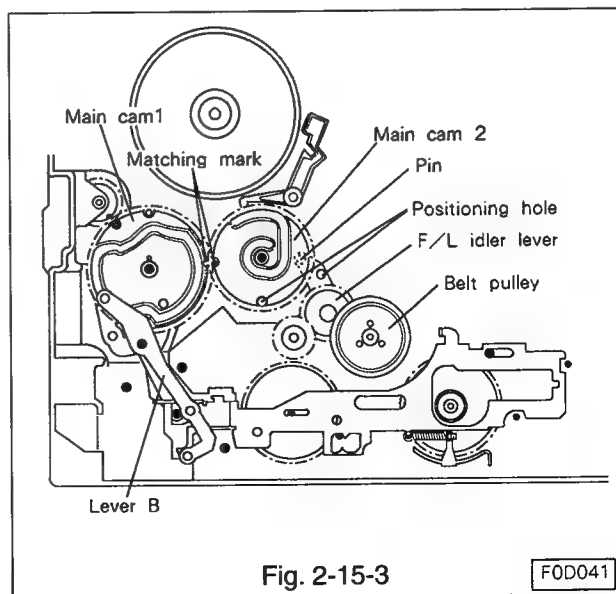

Fig. 2-15-3
- F. Assemble lever B to the shaft so that the pin of the lever shown in Fig. 2-15-3 enters the groove of the main cam 1. Secure the lever with a grip ring.
- G. Line the positioning hole of the F/L idler lever with that of the main plate. (Refer to Fig. 2-15-3.)
- H. Line the matching mark of main cam 2 with that of main cam 1, and also the positioning hole of main cam 2, and assemble the main cam 2 to the shaft. (Refer to Fig. 2-15-3.)